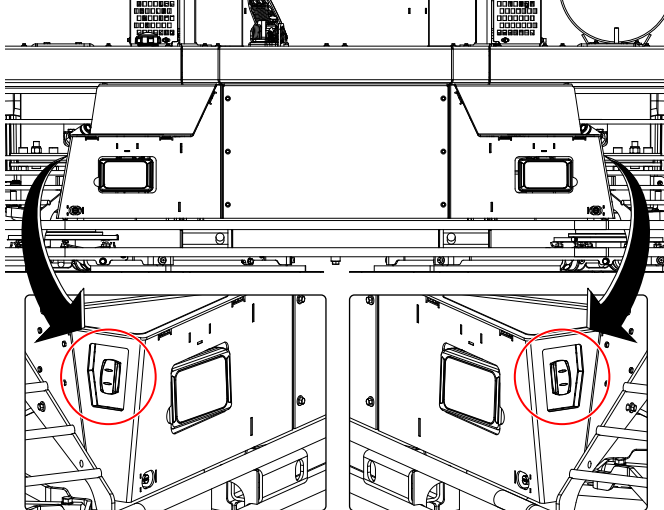

Figure 50. Drive Bypass Switches
2. **Without sitting in the operator's seat**, press and hold one of the **drive bypass switches** (Figure 50). Engine speed will rise to operating speed and **the trowel lights will flash** to remind personnel to **exercise caution** while turning the blades during this procedure.